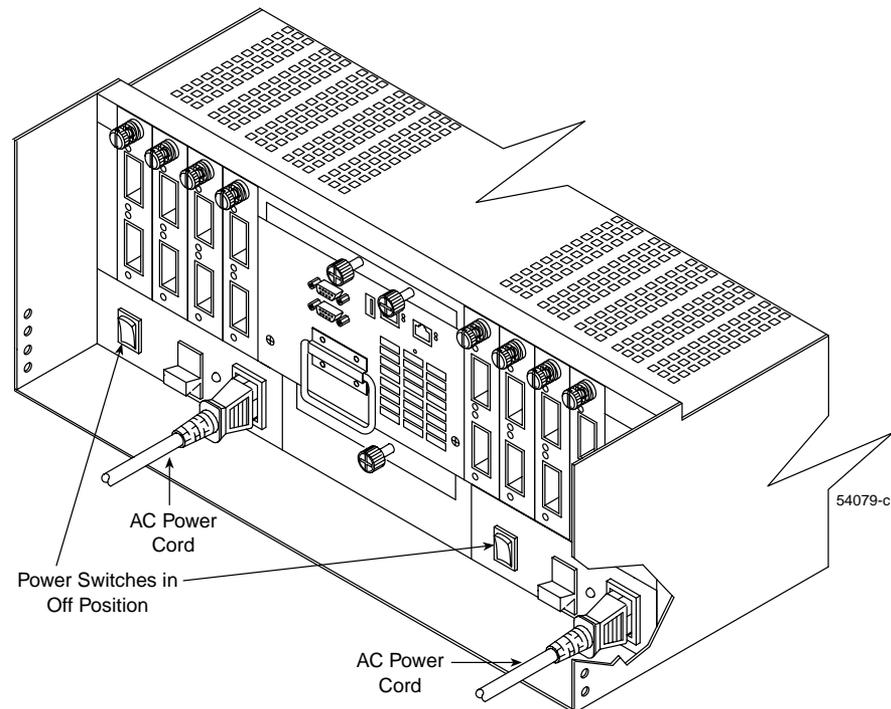

Figure 8-14 Connecting the Controller Enclosure Power Cords
3. Plug the controller enclosure power cords into the controller enclosure power supplies (Figure 8-14).